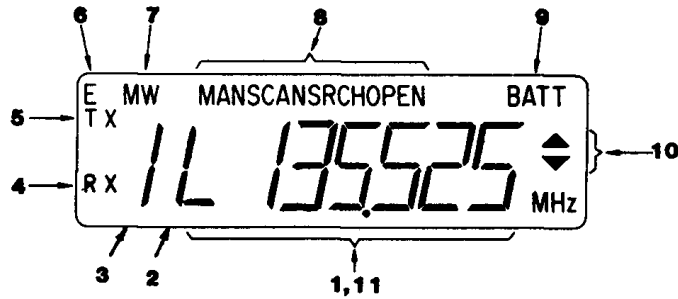

FIGURE 11-5
## 11.6 DESCRIPTION OF THE LIQUID CRYSTAL DISPLAY (LCD) (Refer to Figure 11-5)
1. If the letters **"BATT"** should appear in the upper right hand corner of the display (see Figure 11-5), the battery pack voltage has fallen below its lowest operating limit. It should be fully recharged as soon as possible. During the time that **"BATT"** is displayed, the radio may be capable of a few more transmissions. However, complete discharge of the batteries is not recommended since it will require the reprogramming of memory locations M0 to M9 and also the resetting of the clock.